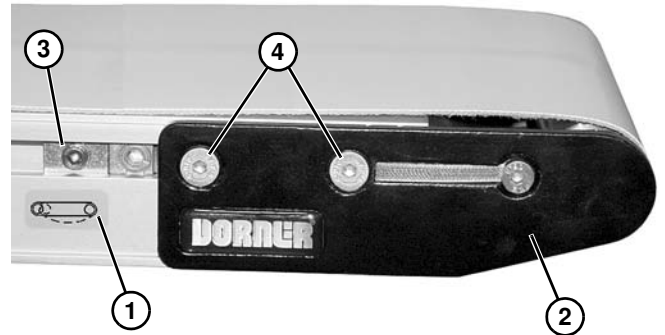

Figure 57
4. On tension end of the conveyor, identified with  a label (**Figure 57, item 1**), push in head plate assembly (**Figure 57, item 2**):
- a. On both sides of conveyor, loosen and move cam tracking assemblies (**Figure 57, item 3**) (if equipped) away from head plates.
- b. Loosen fastening screws (**Figure 57, item 4**) and push head plate assembly inward.